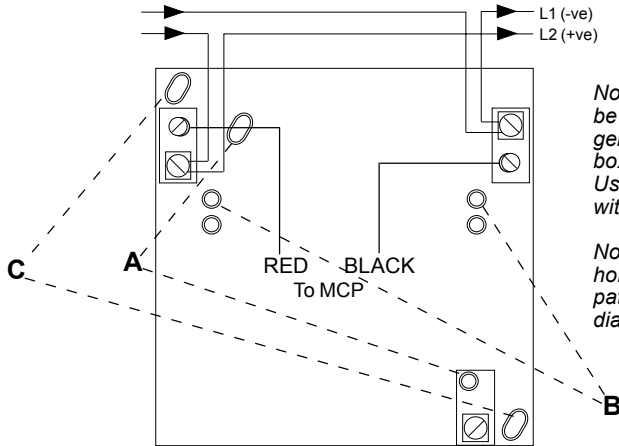

Fig 3. Pattress Connection Diagram
- 5. Undo the small front cover retaining screw and remove the call point front cover. Remove the 'NOT IN USE' insert. Connect all cables as shown in Fig. 3, secure the call point to the pattress and fit either the 'NOT IN USE' insert or the glass as required. Finally, replace the front cover.